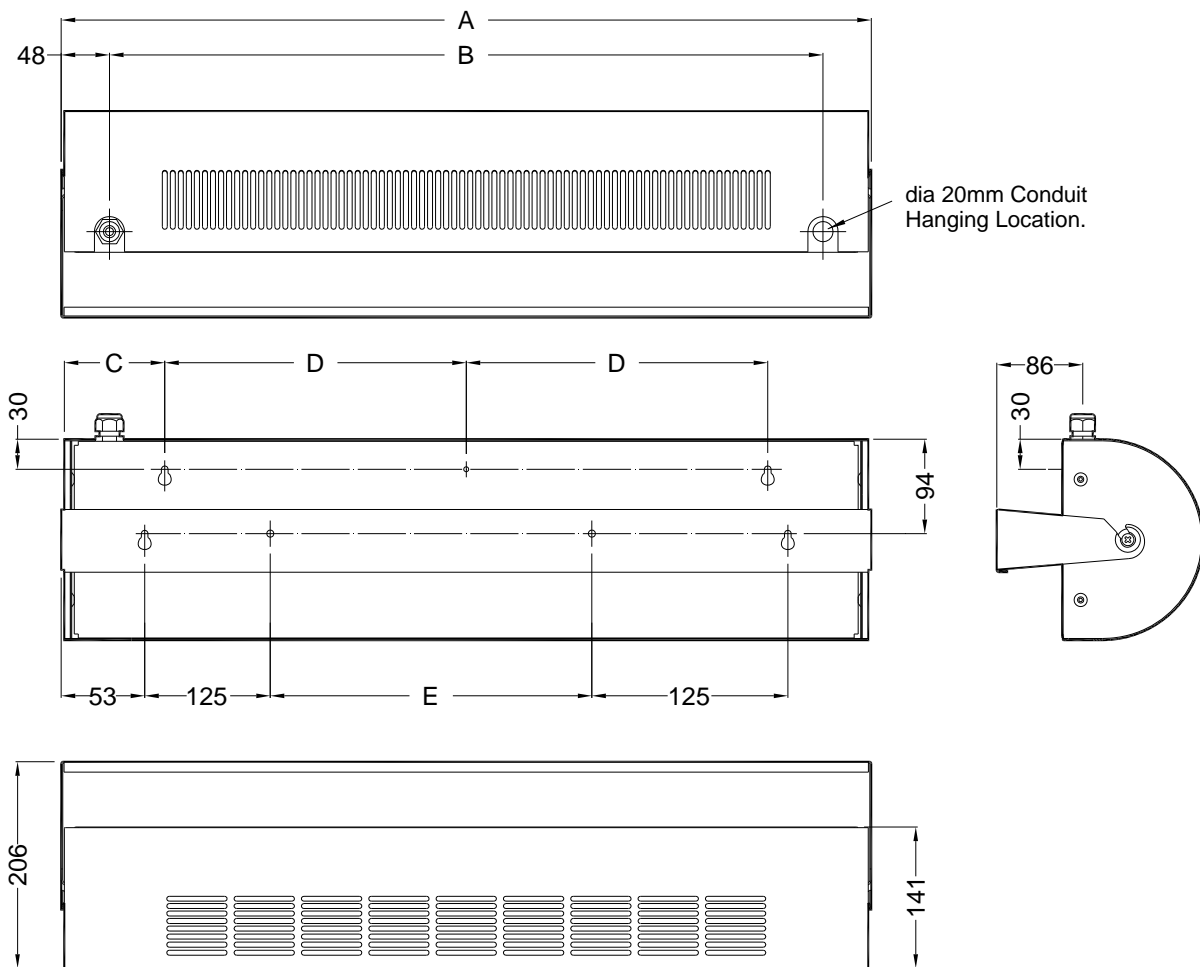

Figure 1. Mini (size 1000 shown)
- Direct to a suitable wall or bearer with appropriate fixings either using the holes in the swivel mounting bracket, or the key hole slots in the back plate of the product. See Figure 1 for mounting centres.